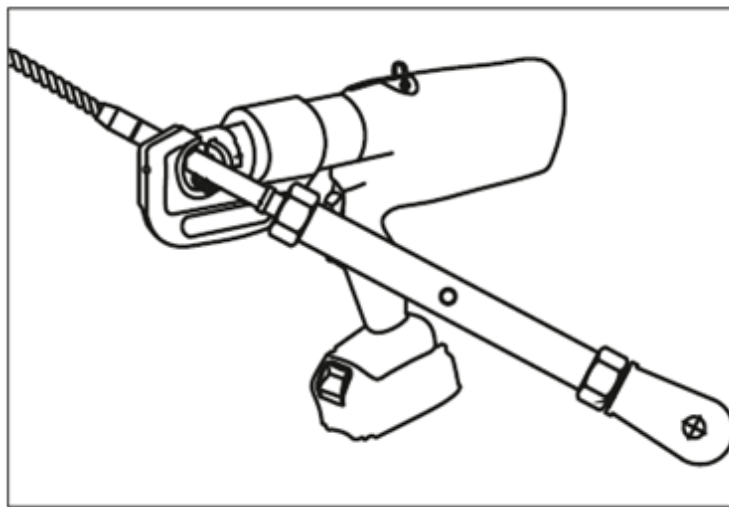

Fig: 1
- Selection of the right size of Hex loc Die is critical. Ensure that the hex loc Die has dimensions as in the Fig. 1
Note 1: The size of the Die available on the market nearest to the recommended size in Fig. 1 is 50mm²